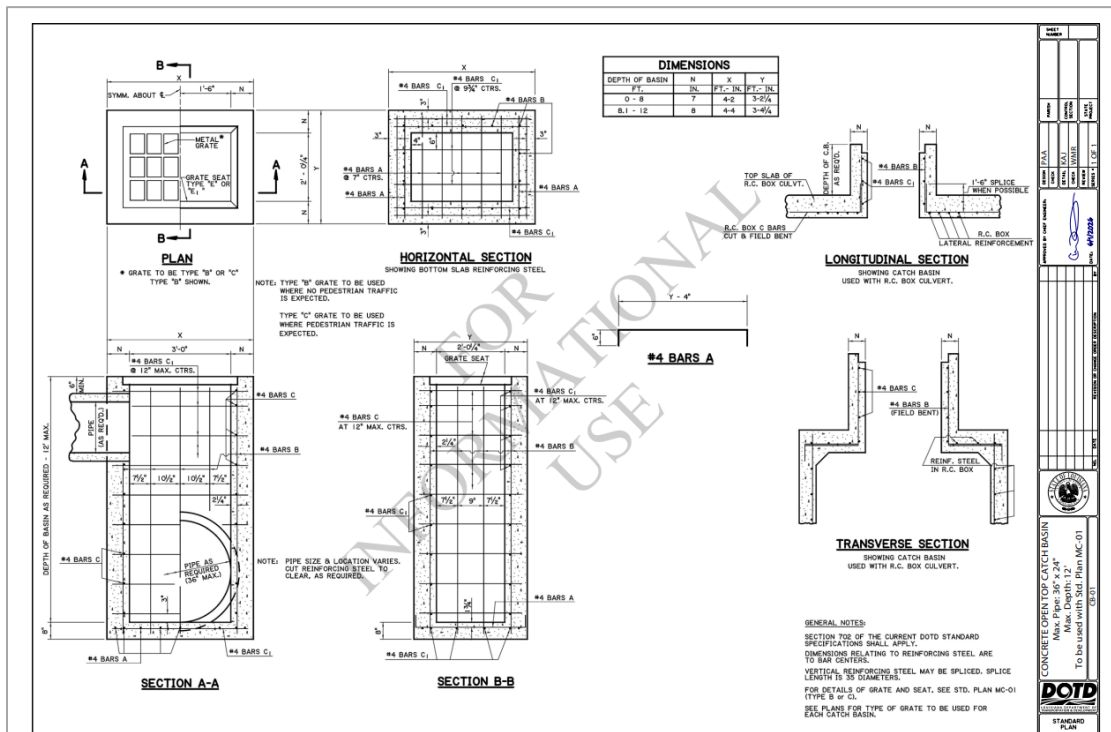

Figure 1.5a: CB-01, Sheet 1 of 1, "Concrete Open Top Catch Basin." Standard Plan dated 6/1/2026. (See Section 1.6.3 for Plan Sheet Details)
- CB-01, Concrete Open Top Catch Basin Detail. Required where a catch basin is being installed; other catch basin details may be needed depending on culvert size (Figure 1.5a).